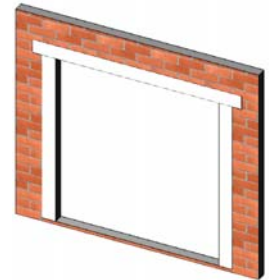

Figure 21:
3. Finally, at the head, embed the flashing into the sealant on the mounting flange and fasten into place. The flashing paper should be cut sufficiently long enough to extend past the flashing paper at each jamb by at least 3 in (Figure 21).